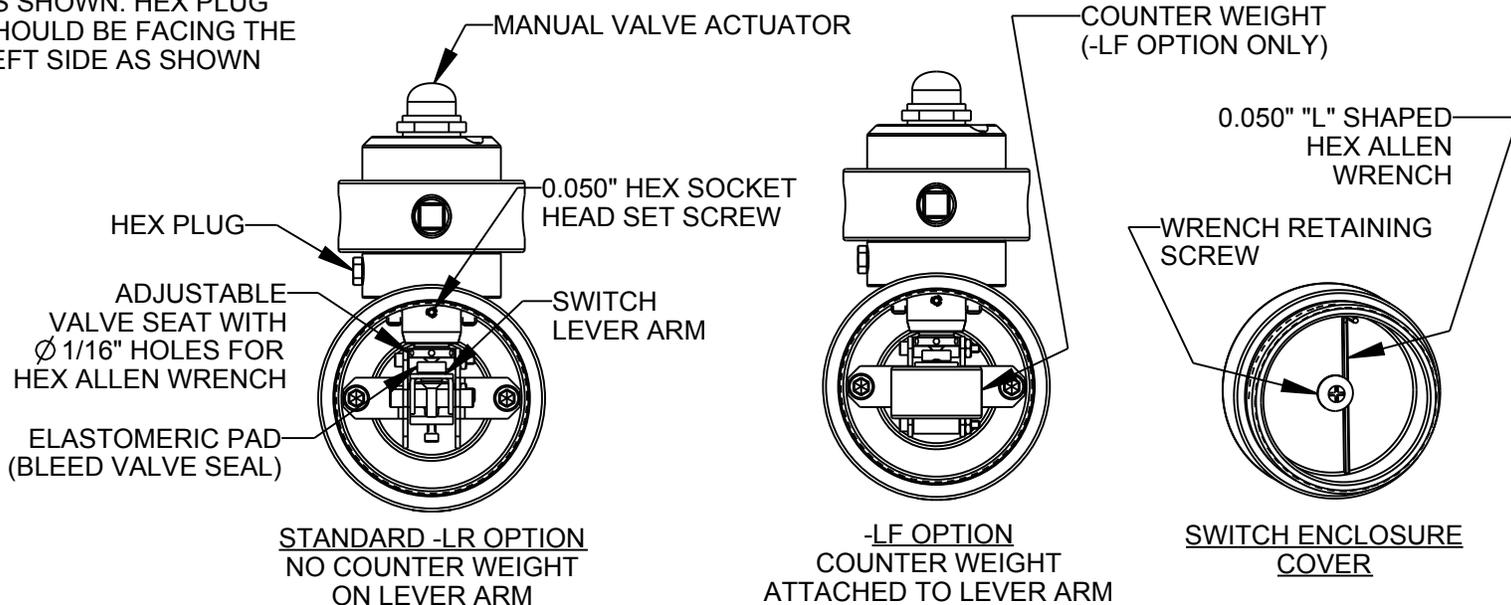

FIGURE 4
- Make sure the switch float is in the “valve closed” position. On the KPFS-LR model, the switch float will need to be in the down position. On the KPFS-LF model, the switch float will need to be in the up position. You will know which model you have by the model number on the switch enclosure cover name tag. In addition to this, the KPFS-LF has a counter weight attached to the lever arm and the KPFS-LR does not. See illustrations in Figure 4.